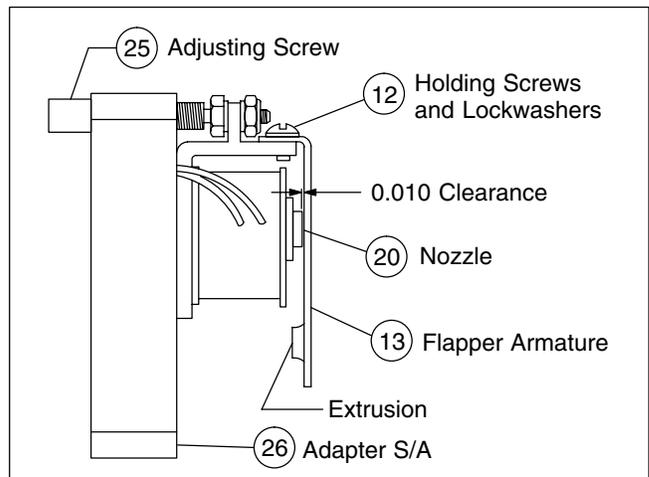

Figure 3. Pilot Stage Servo Valve Adjustment Locations
Be careful when installing flapper armature (13). The securing screws (12) extend thru the frame (22) and could break the insulation on the coil. See Figure 3.
f. Place a 0.010 shim between the flapper armature (13) and the nozzle (20) while tightening the two holding screws and lockwashers (12). See Figure 3.